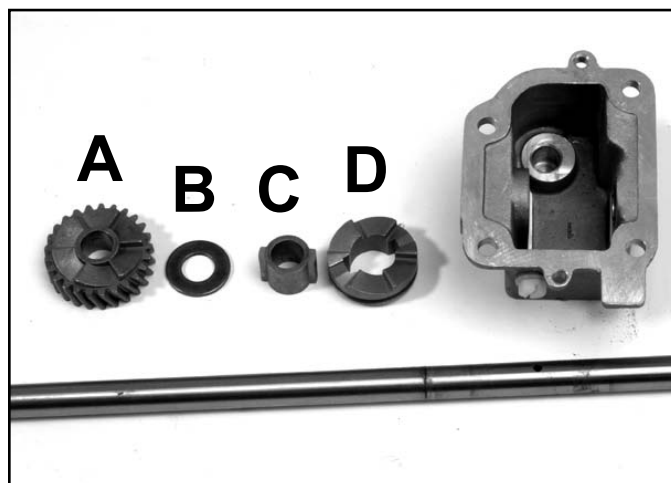

Fig 013
8. Remove the sleeve, clutch jaw, helical gear, and thrust washer (Fig. 013)